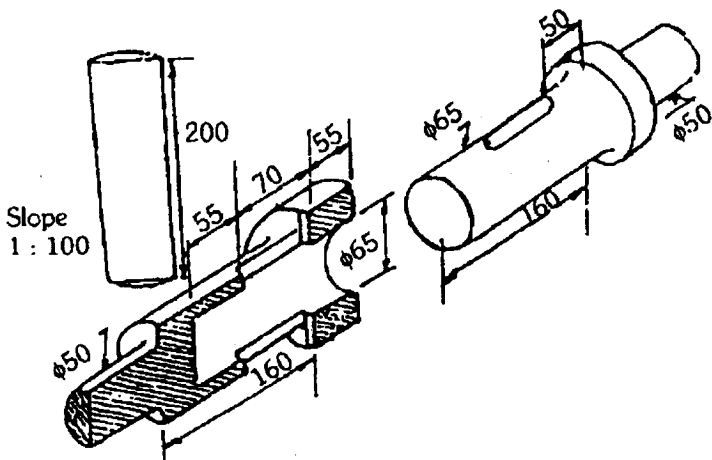

Figure 1
3. Figure 1 shows three components of a cotter joint. Assemble and draw the elevation with upper quarter (front) in section and side view full (choose 1/2 scale).